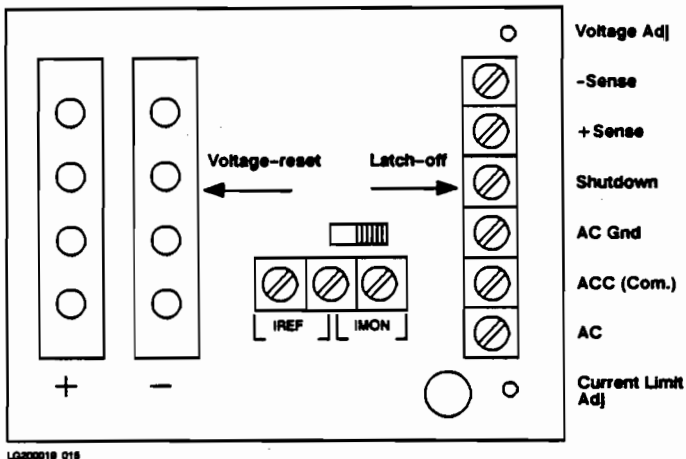
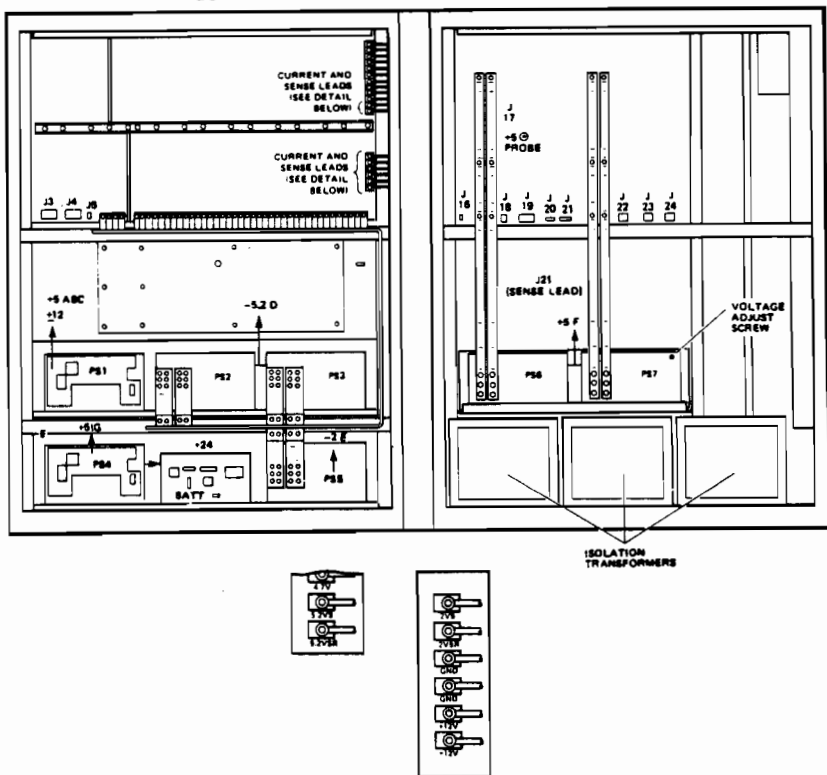

Figure 6-4. Rear View Of Power Supply (HP 32460A)
Figure 6-6. Power Supplies, Sense Leads and Isolation Transformer Location (HP 32460A)
3. Disconnect BOTH sense leads from both supplies. (See Figure 6-4.)
- a. Monitor the -5.2 volt sense lines on the CPU backplane with a voltmeter and adjust PS#3 to -5.25 V. (See Figure 6-6 and refer to Table 6-3.)
- a. Place the voltmeter leads across the -5.2V sense lines on PS#2. (See Figure 6-6.)
- b. Place voltmeter leads across the IREF terminals located on the rear of PS#7. (See Figure 6-4.)
For the +5 volt power supplies (no. 6 and no. 7), the sense leads are on J21 connector on the I/O backplane. (See Figure 6-6 and refer to Table 6-3.) Meter leads will remain on the same connection throughout the procedure.
- b. Adjust power supply no. 7 to +4.95 volts. See Figure 6-4 for location of PS voltage adjustment pot. Since the most positive supply will determine the bus voltage, if no. 6 is set at a more positive level you will be unable to achieve this; therefore, you may have to adjust no. 6 lower (less positive) than no. 7 and then adjust no. 7.
- b. Place the voltmeter leads across the IREF terminals located on the rear of the power supply. (See Figure 6-4.)
- a. Place the voltmeter leads on the appropriate sense leads according to which supplies are going to be adjusted. See Figure 6-6 for the location of sense leads and Figure 6-4 for location of voltage adjust pot.